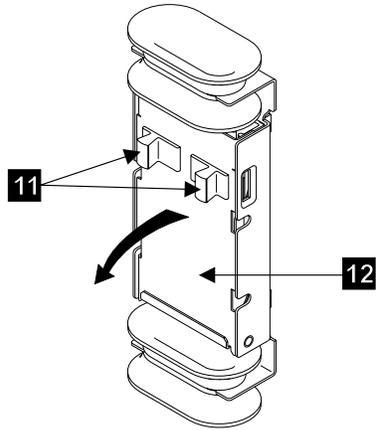
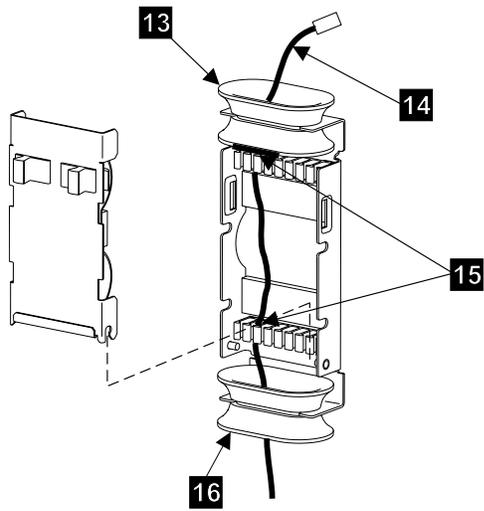

Figure 313. Fibre/ESCON Cable Strain Relief Cover Removal (S009014M)
Figure 314. Fibre/ESCON Cable Strain Relief Bracket Hardware (S009013M)
- ___ 12. Refer to Figure 313 on page 318 and Figure 314 on page 318 for the following steps.